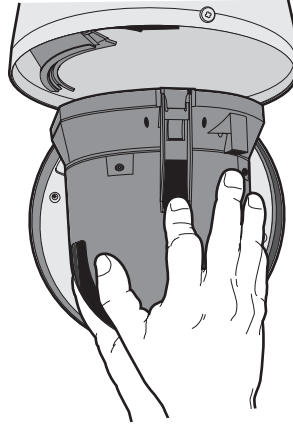

Figure 2. Dome Drive Installation
3. Continue pushing on the ends of the tabs until both sides click into place (refer to Figure 2).